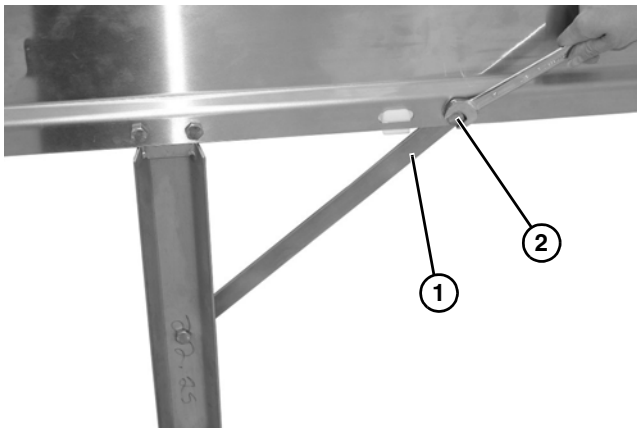

Figure 12
3. Attach the end of brace with threaded hole (**Figure 12, item 1**) to the conveyor with hex head bolt (**Figure 12, item 2**).